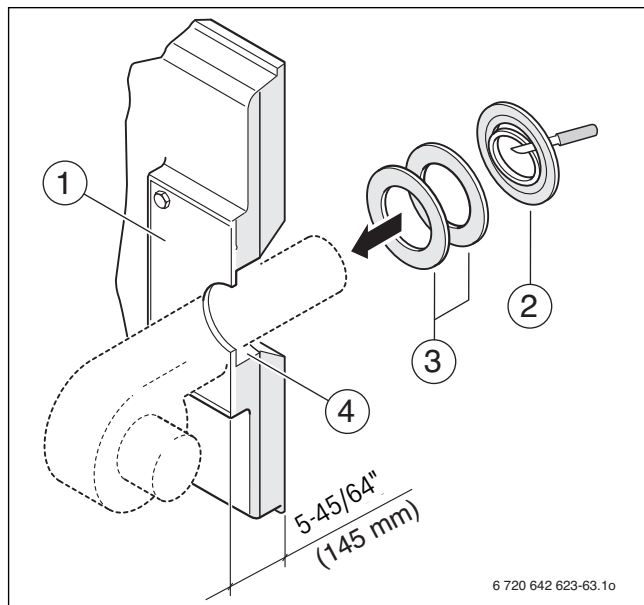

Fig. 66 Mounting the burner
- ▶ Drill or cut the burner plate (→ Fig. 66, [1]) to match the required burner tube diameter $\varnothing 10 - 5/8$ inches (270 mm).
- ▶ Cut out insulating rings to match the burner tube diameter (→ Fig. 66, [2]).
- ▶ Fill the remaining gap between the burner door thermal insulation and the burner tube → Fig. 66, [4]) using the appropriate insulating rings (→ Fig. 66, [3]).